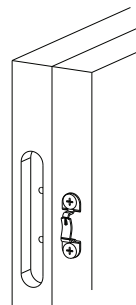

Fig. 3
9. Install the male spring clips with the tang in the up position (Fig. 3)
10. Install the female spring clips with the tang in the down position in the machined pocket using the pre-drilled holes (Fig. 3)